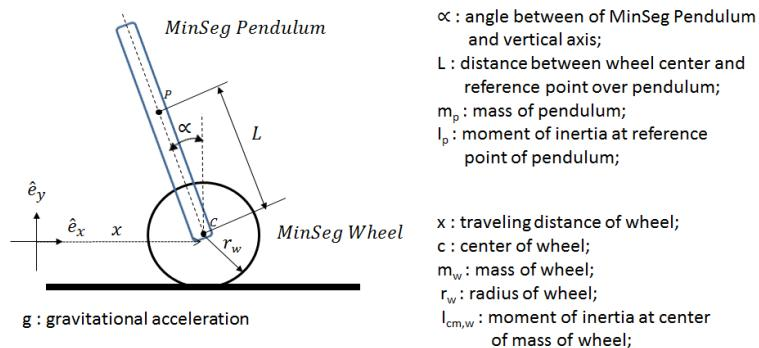

Figure 2 Mathematical model of MinSeg around the zero-equilibrium system.
Figure 2 depicts the motion of a MinSeg over flat ground. In our first homework assignment, the equation of motion was given as (1).
Step 2 Measure the physical parameters of your MinSeg as shown in Figure 2 (find creative ways to measure the weight in grams (home kitchen scale, post office, grocery store, etc.) Create a table to list the values of your measurement (SI unit). A set reference values of (k_t , K_b , R) are given as $(k_t, K_b, R) = (0.3233 \text{ Nm/A}, 0.4953 \text{ Vs/rad}, 5.2628 \text{ ohms})$.